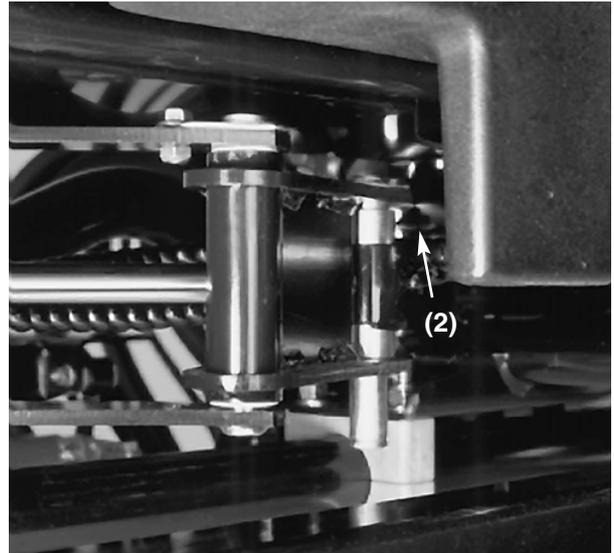
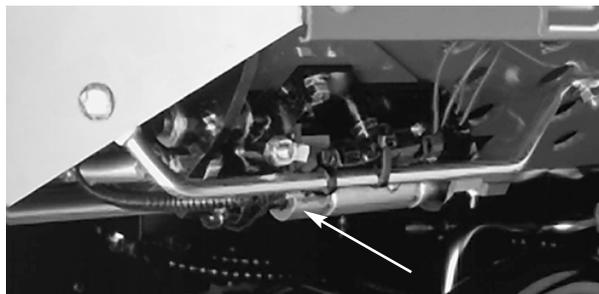

Figure 20
Figure 26
The traction unit bearings and bushings that must be lubricated are: Rear cutting unit pivot (Fig. 18), Front cutting unit pivot (Fig. 19), SideWinder cylinder ends (2) (Model 03201 only) (Fig. 20), Steering pivot (Fig. 21), Rear lift arm pivot and lift cylinder (2) (Fig. 22), Left front lift arm pivot and lift cylinder (2) (Fig. 23), Right front lift arm pivot and lift cylinder (2) (Fig. 24), Neutral adjust mechanism (Fig. 25), Mow/Transport slide (Fig. 26), Belt tension pivot (Fig. 27) Steering cylinder (Fig. 28). **Note:** If desired, an additional grease fitting may be installed in other end of steering cylinder. Tire must be removed, fitting installed, greased, fitting removed and plug installed (Fig. 29). **IMPORTANT: Do not lubricate Sidewinder cross tube, bearing blocks are self-lubricated.**